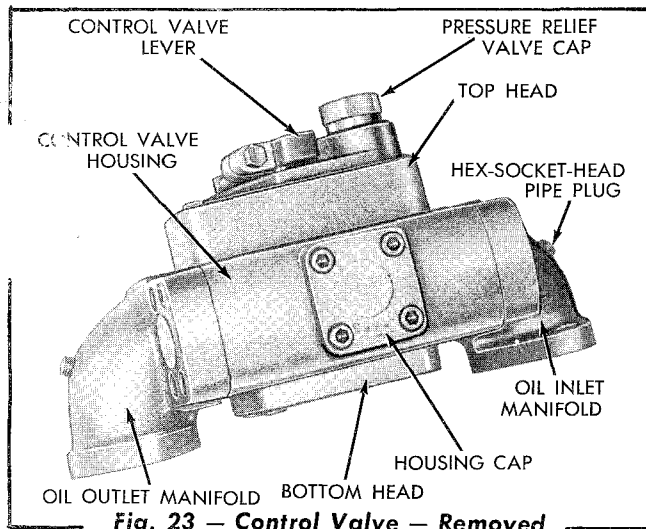

Fig. 23 — Control Valve — Removed
B. Disassembly (Figs. 23 and 24)
D. Assembly (Figs. 23 and 24)